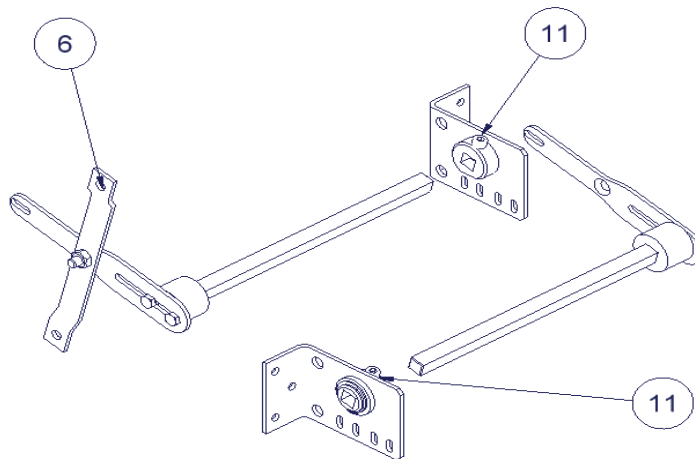

Figure.5
- 5. MOUNTING PLATES AND ARMS JOINT:** Before joining the mounting plates and the arms, it should be checked which is the right plate and which is the left one. The arm with the governor linkage (**6**) must be introduced in the plate of the side where the lift speed governor is placed and the arm without the governor linkage will be introduced in the oder plate. The support cap screw (**11**) must be tightened in order to fix together the mounting plates and the arms - Fig. 5